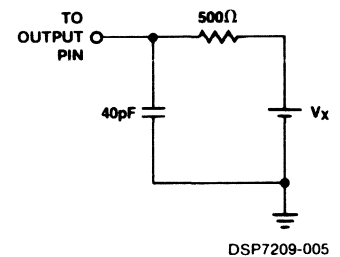

Figure 2. Output Three State Delay Load ( $V_x = 0V \text{ or } 2.6V$ )
1. Transition is measured  $\pm 500mV$  from steady state voltage with loading specified in Fig. 2.